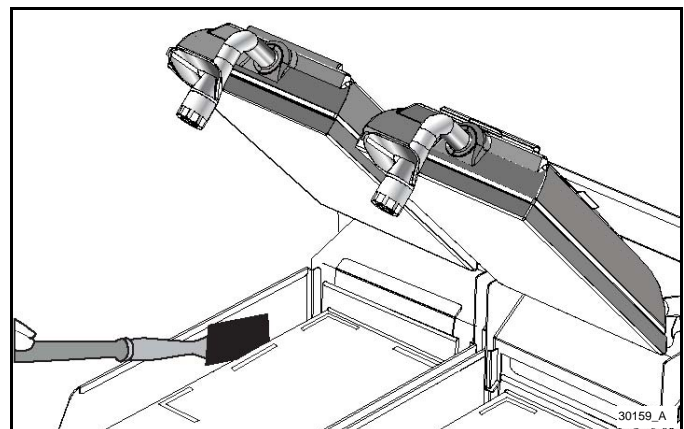

Figure-158
29. To clean the lower plate sides, pull out the grill and raise the lower plates. See Figure-158.